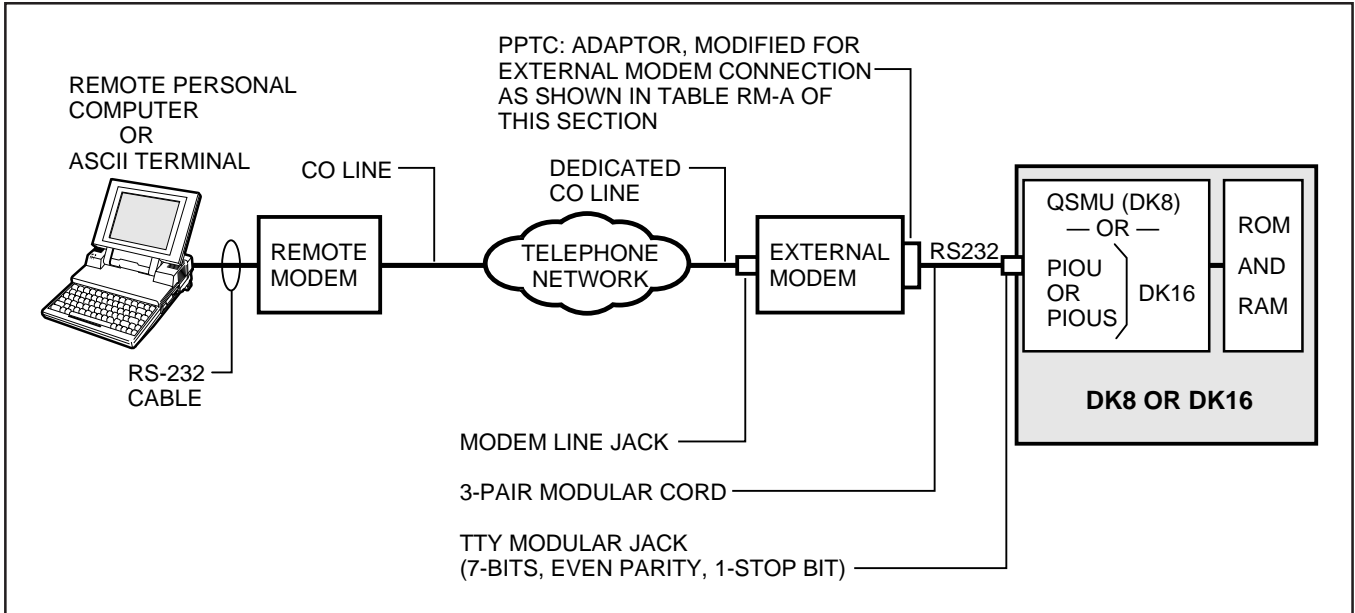
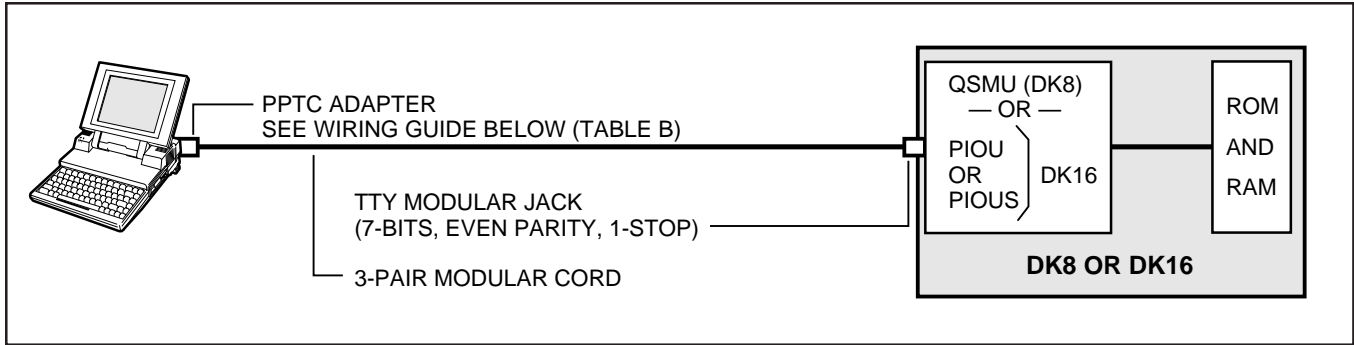

FIGURE 2
FIGURE 5
2.01 With the STRATA DK8, Remote Administration and Maintenance is accomplished with a remote terminal/modem communicating over the public telephone network, but only via an external modem connected to a dedicated CO line or standard telephone port. See Figures 2 and 3. With STRATA DK16 Remote Administration and Maintenance is accomplished with a remote terminal/modem communicating over the public telephone network via either an external modem (connected to a dedicated CO line or a standard telephone port); or, a modem unit (IMDU) installed on a PIOU or PIOUS PCB in the Expansion Unit. See Figures 2, 3 and 4.
All the functions in the preceding paragraphs are also available via an on-site terminal connected directly to an optional PIOU(S) PCB with DK16, or the optional QSMU PCB with DK8. These functions are also available to a terminal with a modem connected to a standard telephone port (Paragraph 5 and Figure 5).
3.01 For Remote Administration and Maintenance operation, the STRATA DK16 system must be configured with either an IMDU-equipped PIOU(S) PCB in the optional Expansion Unit or an external modem connected to a PIOUS(S) and a dedicated CO line or standard telephone circuit. (See Figures 2, 3, and 4.) The STRATA DK8 must be configured with a QSMU PCB and an external modem connected to a dedicated CO line or standard telephone circuit. (See Figures 2 and 3.)
- A customer-supplied maintenance terminal can be connected to the system TTY port (DK8 QSMU, or DK16 PIOU or PIOUS) via an external modem either locally (Figure 5) or remotely (Figures 2 and 3).
1. An external modem is required for Remote Maintenance if a QSMU is installed on DK8, or if an IMDU is not installed on DK16 PIOU or PIOUS. The IMDU has a built-in maintenance channel for remote connection; however, an external modem requires a CO line or standard telephone port (Figures 2 and 3).
4.21 Install the ASCII terminal in accordance with the following steps (Figure 5):
4.32 **DK8 and DK16 External Maintenance Modem Installation.** Refer to Figure 2 or 3, as applicable, and install the external modem in accordance with the following steps:
5.01 For DK16, the optional Expansion Unit must have a PIOU or PIOUS PCB installed to perform on-site Remote Administration from a local terminal. For DK8, a QSMU PCB is required. Paragraph 4 and **Figure 5** provide installation details on local terminal installation.
5.02 The local terminal for either the STRATA DK16 or the DK8 must have an EIA RS-232 interface, communicate in ASCII code at 300 or 1200 bps (1200 bps only for DK8), have a standard typewriter-type keyboard, and display data via a CRT display or printer. A personal computer (PC) capable of emulating the described terminal with a communications software package (such as PROCOMM) may also be used (Figure 5).